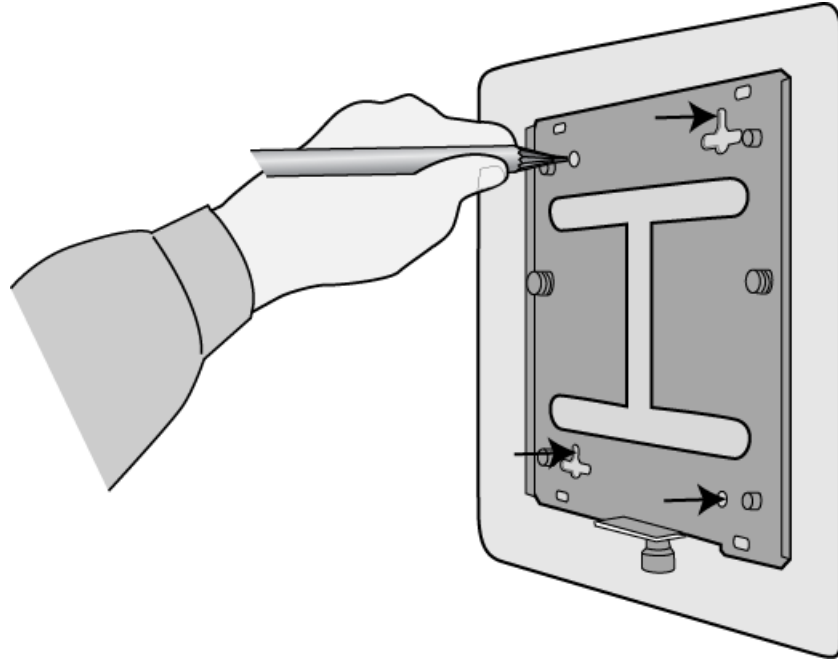

Figure 7. Marking the Four Screw Holes in the Base Plate
1. Position the base plate at the desired location on the wall or ceiling for the access point and mark the four screw holes. Refer to Figure 7.